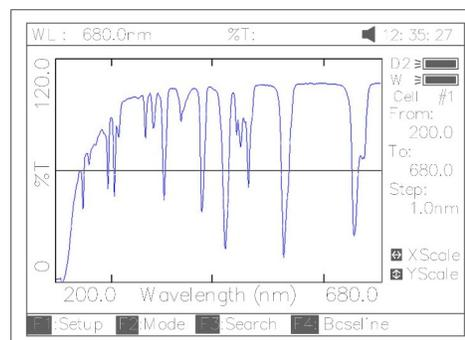

Fig 14
1. The key **[ENTER]** be pressed, the file selected will be loaded and displays on the screen. Fig 14.
- Press the key **【SAVE】** in Fig14 to save curve.